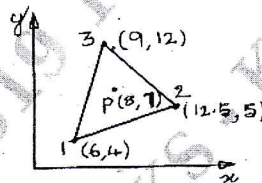

Fig. Q3 (b)
- Compute the shape functions N_1 , N_2 and N_3 at point $P(8, 7)$ for the constant strain triangular element shown in Fig. Q3 (b). (06 Marks)